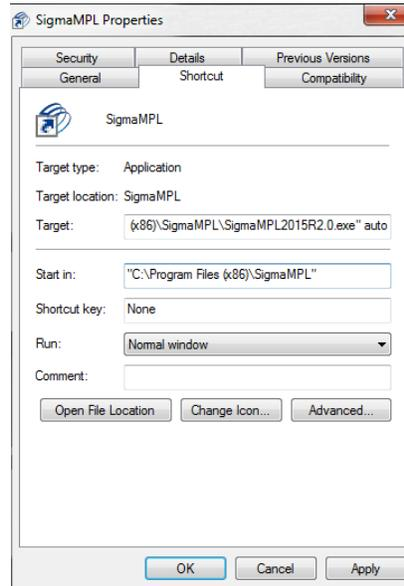

Figure 26: Automatic Startup Setup
- Right click on the *SigmaMPL* icon on the desktop and select **Properties**. Navigate to the *Shortcut* tab and add the word "auto" to the end of the file path displayed in the *Target* field. The full path should read "**C:\Program Files (x86)\SigmaMPL\SigmaMPL2015R2.0.exe" auto**" (Figure 26). Select **Apply** followed by **OK** to save the changes and exit the properties dialog box.